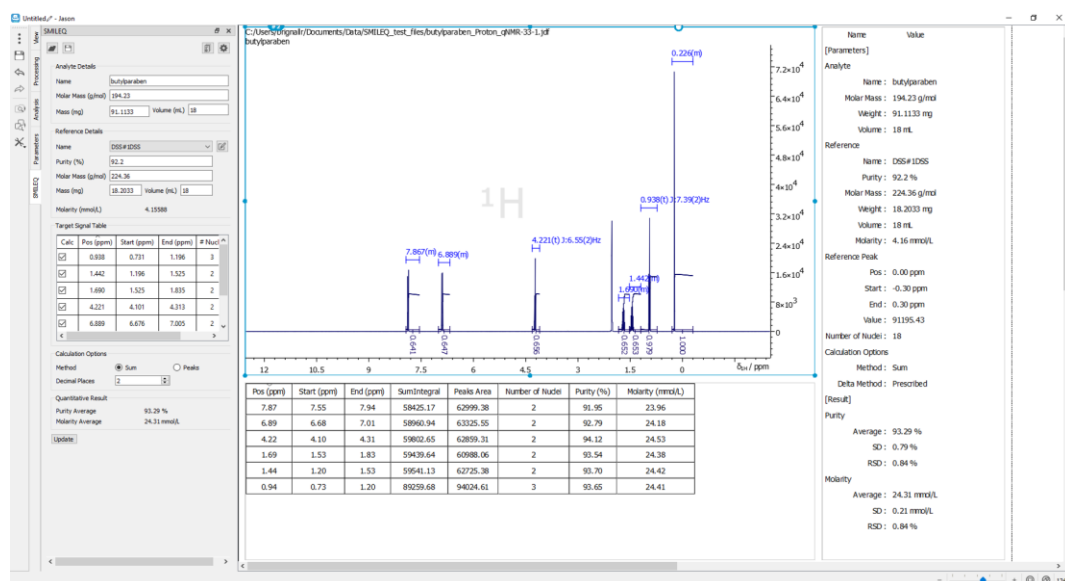

Figure 23: The result of quantification analysis
- After setting the calculation option, press the **“Apply”** button to view the result as shown in Figure 23.
Figure 23 shows the result of a successful quantitative analysis, with the report and parameters tables being added to the canvas.